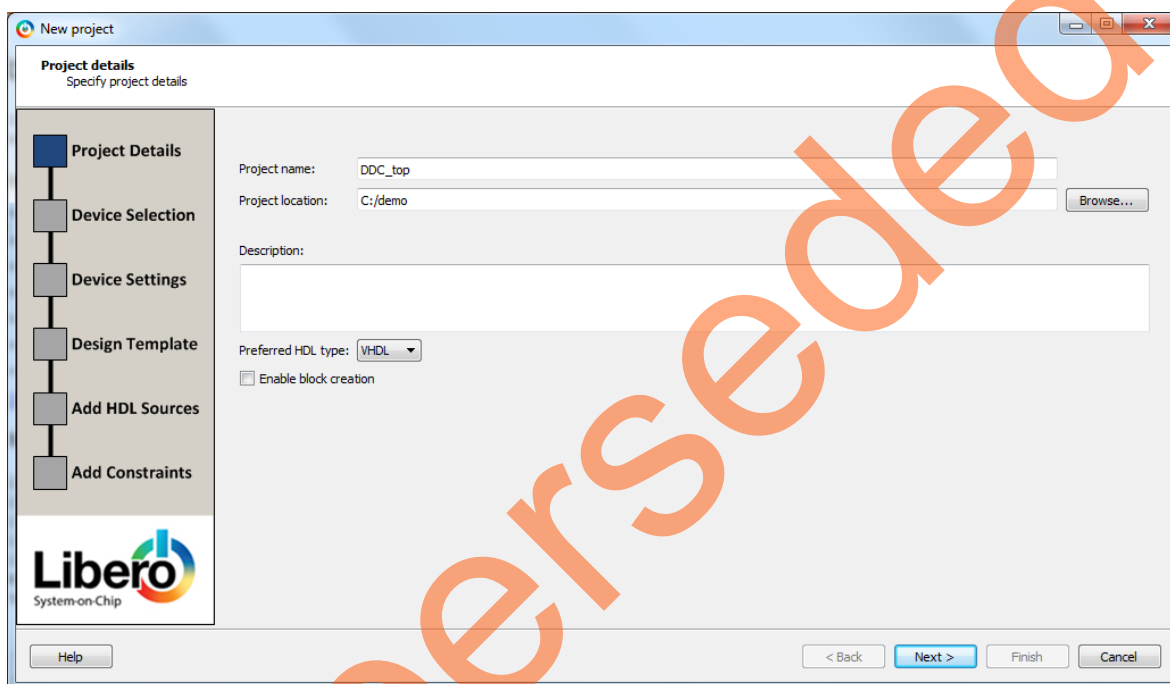

Figure 13. Libero SoC New Project – Project Details
2. In the Project menu, select New Project. This displays the New Project dialog box, as shown in Figure 13.